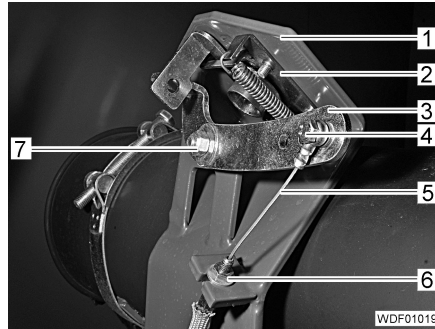

Fig. 398 Locking mechanism of engine hood
- Insert the Bowden cable (Fig. 398,5) into the mounting bracket (Fig. 398,1) from the front.
- Tighten the nut (Fig. 398,6).
- Screw in the screw (Fig. 398,4) with the eye and washer and tighten so that the eye can still be rotated.